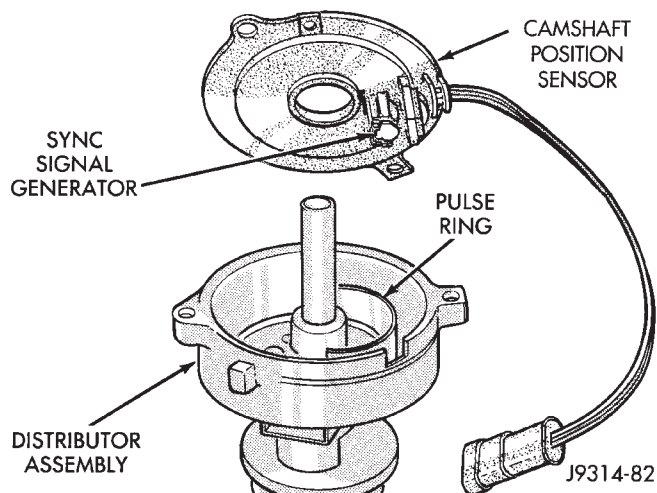

Fig. 5 Camshaft Position Sensor—5.2L Engine
On the 5.2L engine, the sensor is located on the top of cylinder block near the rear of right cylinder head (Fig. 5).
(5) Remove distributor rotor from distributor shaft.
(6) Lift the camshaft position sensor assembly from the distributor housing (Fig. 5).